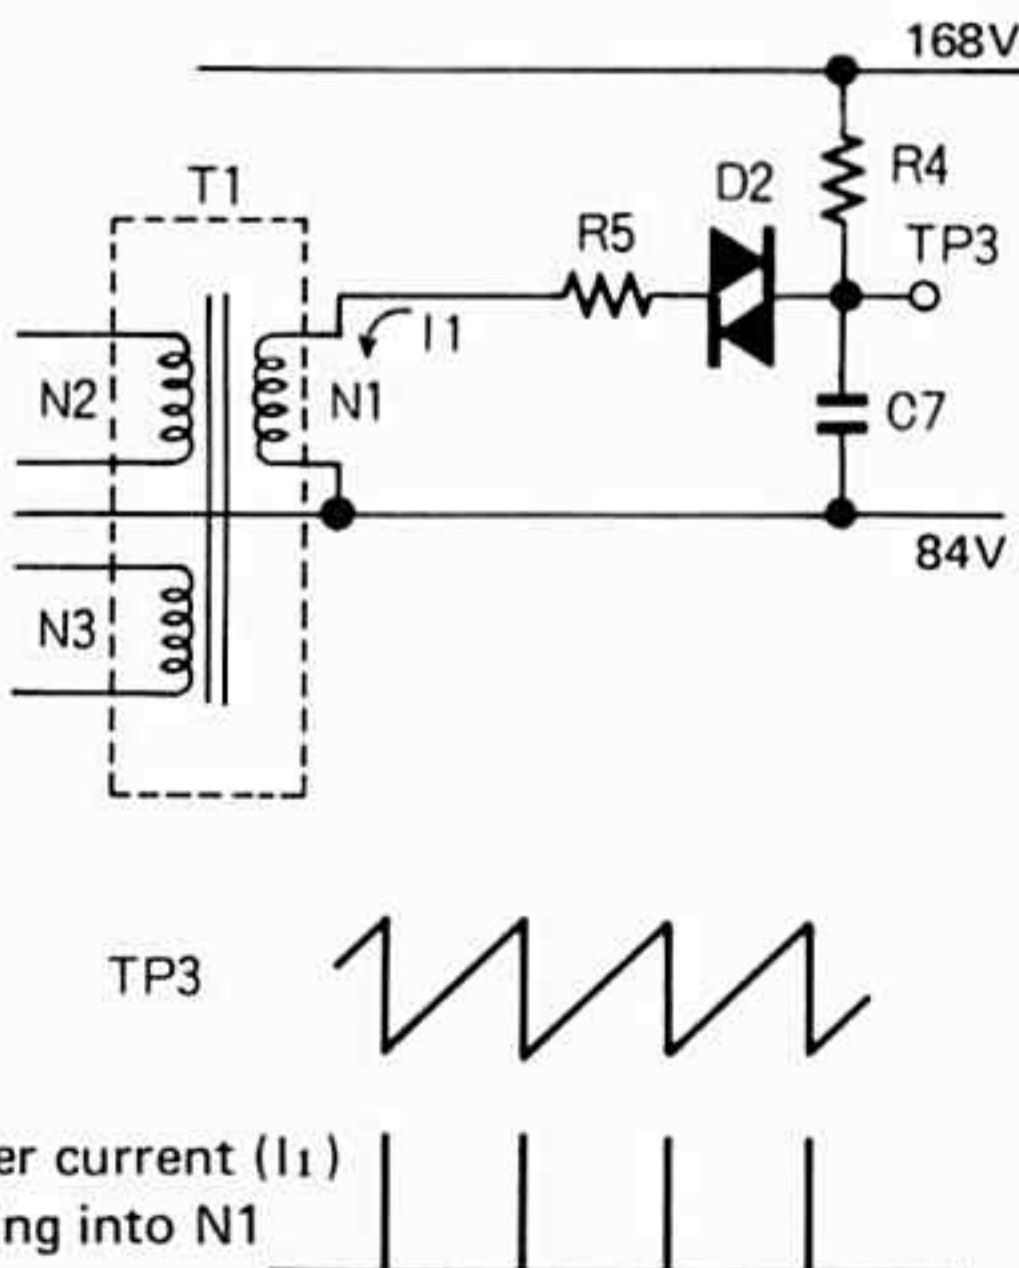

Fig. 15
1. With power supply turned ON, C7 is charged through R4. When the charged voltage becomes high enough to turn on trigger diode D2, current (I1) flows through R5. Then, C7 is discharged and, therefore, it is again charged through R4. As the operations are repeated, trigger current flows into N1 as shown in Fig. 15.